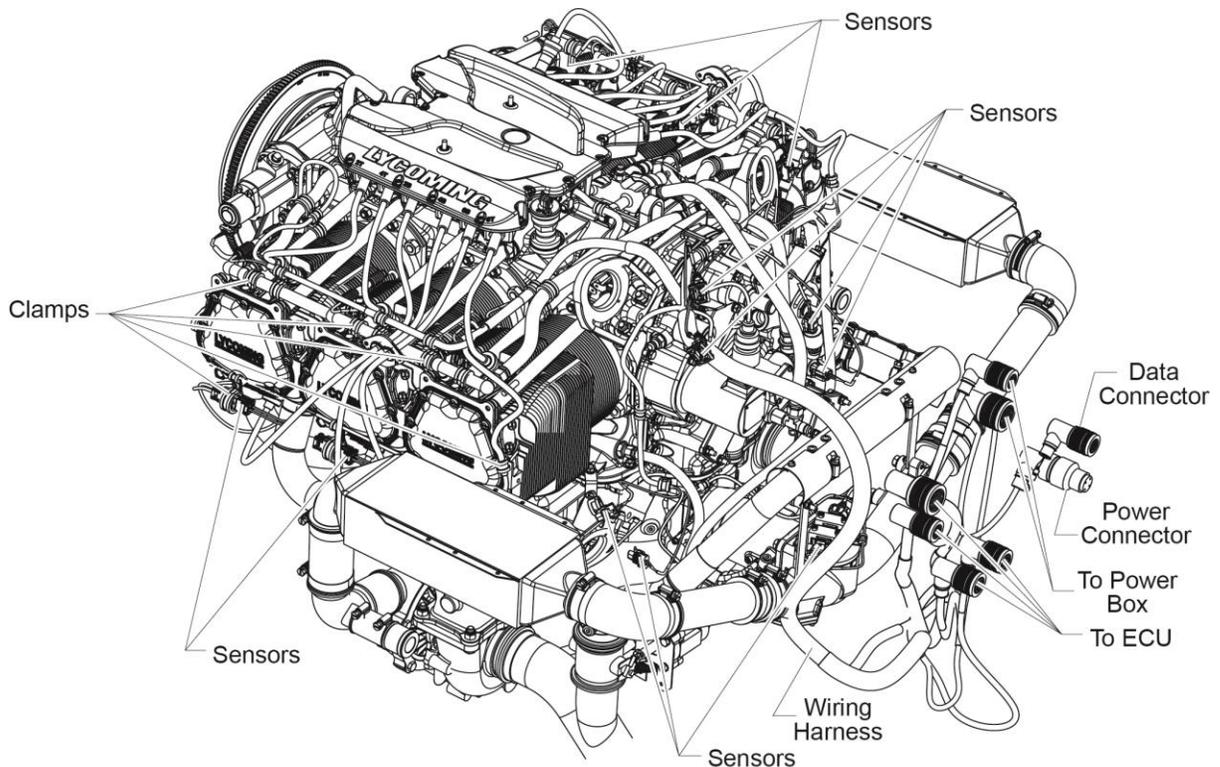

Figure 1
NOTICE: The engine is sent from the factory with the wiring harness sensors and spark plugs installed (Figure 1).
5. Examine the engine wiring harness (Figure 1), sensors, and actuators for damage. If damage is found, replace the damaged items. Refer to the *TEO-540-A1A Engine Maintenance Manual*.
3. Connect the engine-to-firewall wiring harness (Figure 1) to the airframe interface wiring harness per the Airframe Manufacturer’s Maintenance Manual.